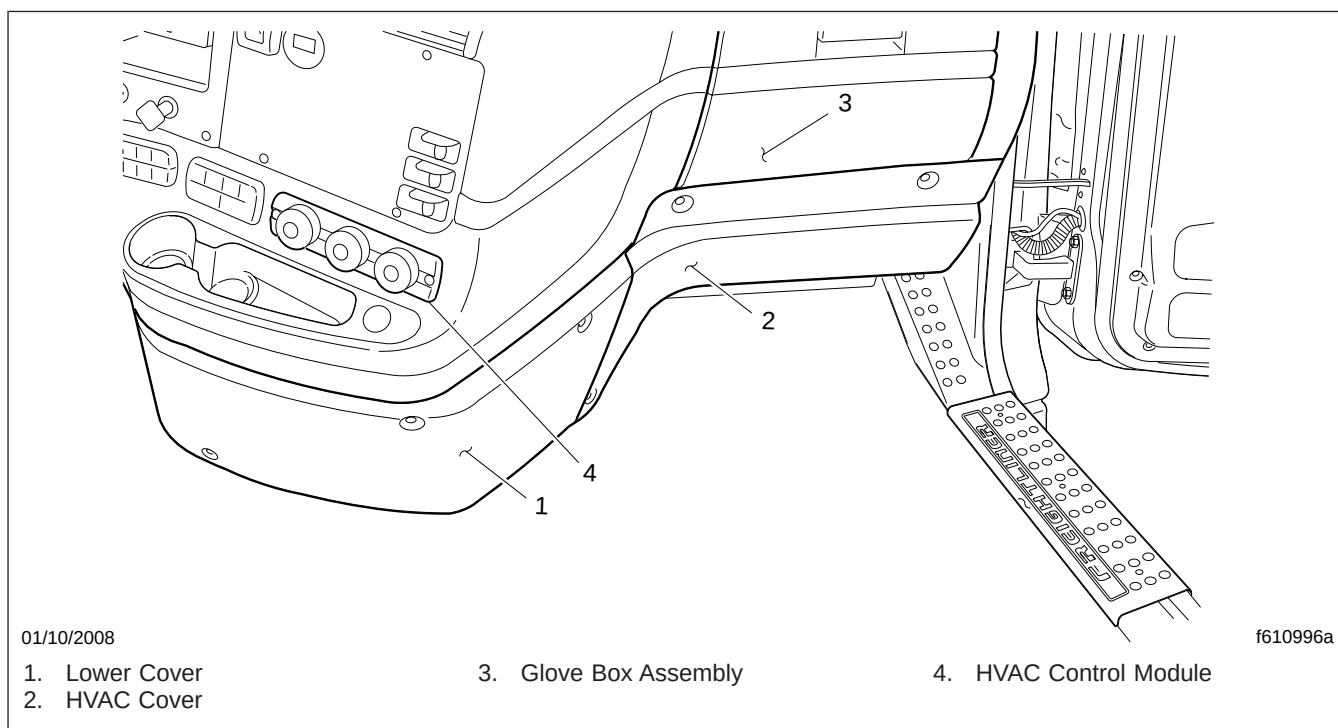
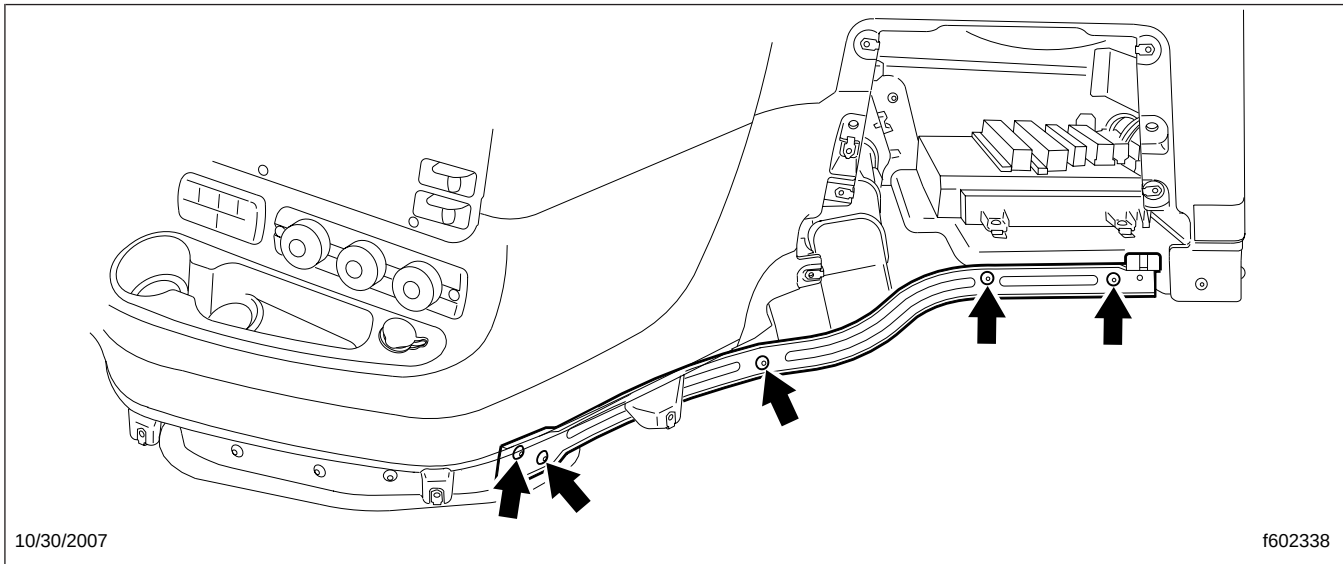

Fig. 1, Dash Panels
Fig. 2, Glove Box Brace Fasteners
3. Remove the dash access panels and supports listed below. See Fig. 1 and Fig. 2. See Section 60.06 for instructions.